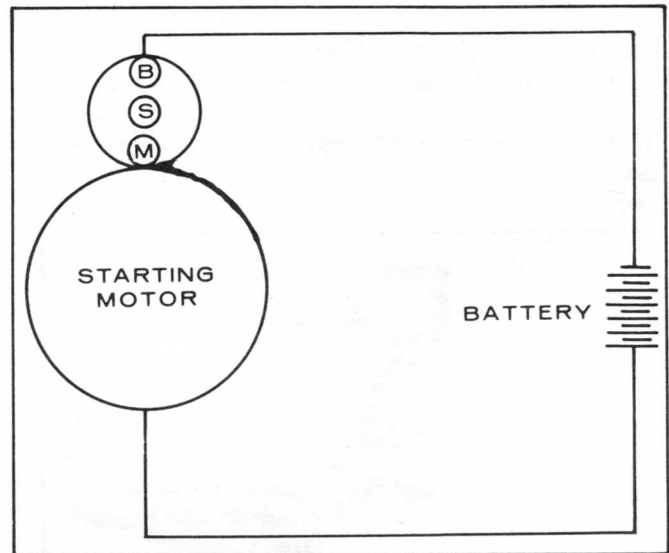
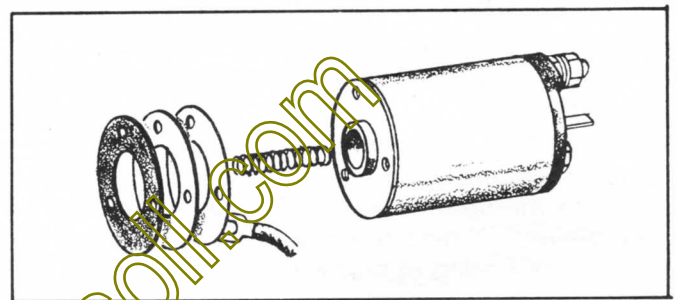

FIGURE 69. BATTERY CONNECTIONS
FIGURE 70. ADJUSTING PINION CLEARANCE
2. To adjust pinion clearance, connect the battery to the starting motor as shown in Figure 69. This will allow the pinion of the starting motor to slide and stop. In this state, measure the clearance between the end of the pinion and pinion stop when the pinion is pushed lightly toward the commutator end. Clearance should be .02" to .06" (0.5 to 1.5 mm). Adjust for proper clearance by removing the magnetic switch attaching screws and select the proper thickness of the fiber packings shown in Figure 70.